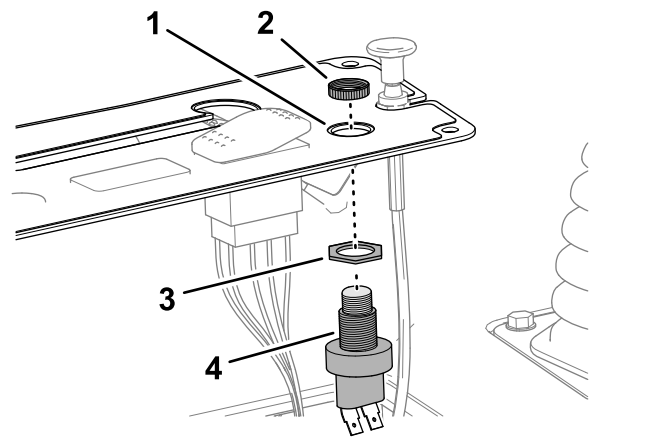

Figure 16
- Thread the jam nut onto the body of the horn switch (Figure 16).